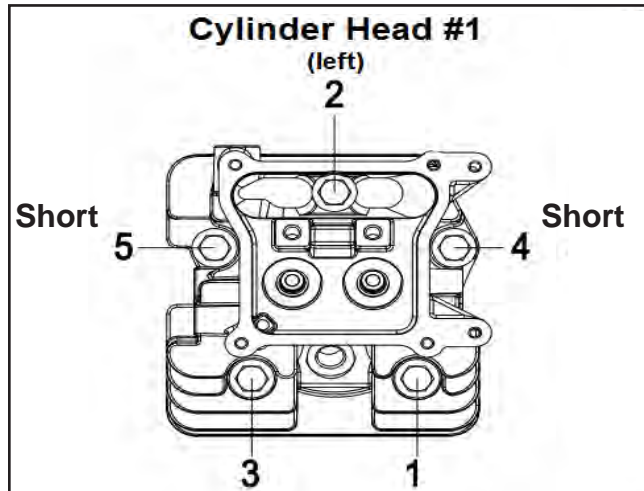

Figure 20
4. Loosely install the five head bolts (three longer, two shorter), refer to Figure 20 and 21, page 9-21.
6. Torque cylinder head bolts (50 and 70 mm) to 39 ft-lbs. (52.5 Nm) (Figure 20 and 21).